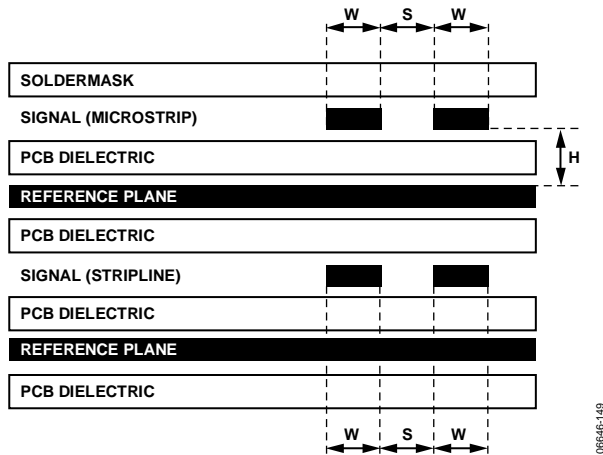

Figure 48. Example of a PCB Cross-Section
The high speed differential inputs and outputs should be routed with  $100\ \Omega$  controlled impedance differential transmission lines. The transmission lines, either microstrip or stripline, should be referenced to a solid low impedance reference plane. An example of a PCB cross-section is shown in Figure 48. The trace width (W), differential spacing (S), height above reference plane (H), and dielectric constant of the PCB material determine the characteristic impedance. Adjacent channels should be kept apart by a distance greater than  $3\ W$  to minimize crosstalk.